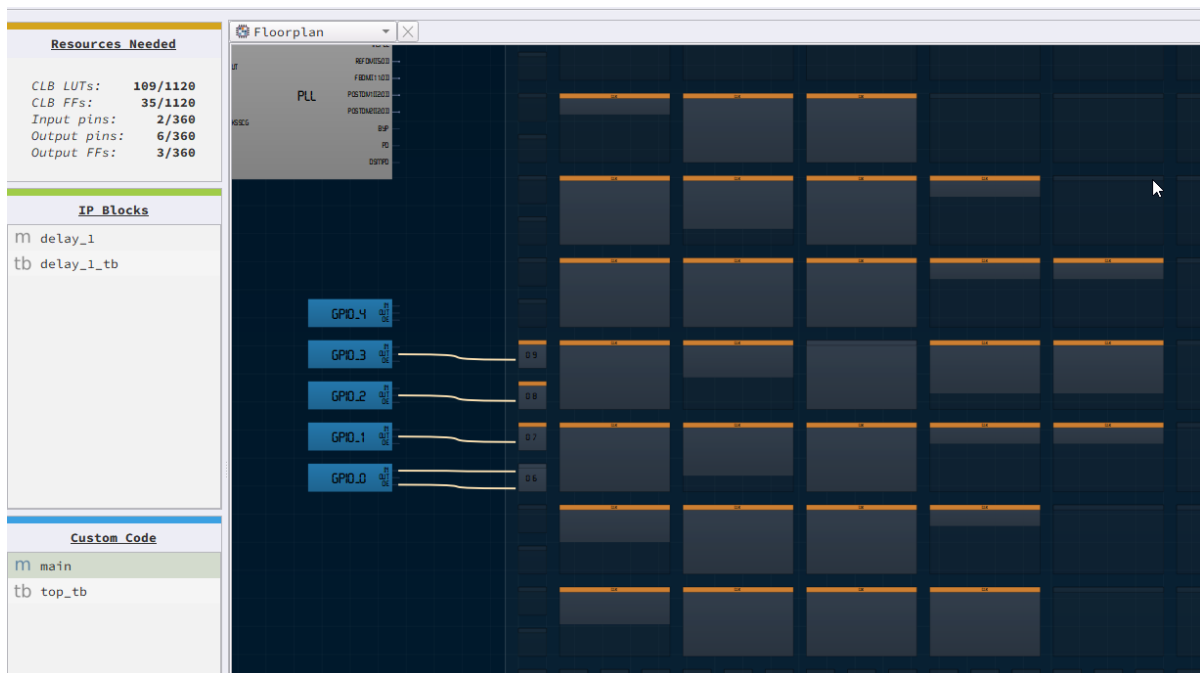

Figure 5: CLB Utilization
8. Now click on the Floorplan tab and see the CLB utilization (Figure 5). Press the Ctrl and the mouse wheel to zoom-in. Confirm that the IOs selected in the IO Planner are shown in the floorplan.